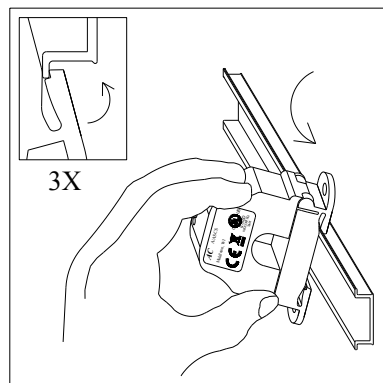

Figure 1: Sensor Placed on Rail
The A/ASCS Series Current Switches should be used on **Insulated Conductors Only!** The current switch may be mounted in any position using the (2) #8 x 3/4" Tek screws and the mounting holes in the base or snapped directly on to the 35mm DIN rail (See Figures 1 & 2 below). Leave a minimum distance of 1" (3 cm) between the current switch and any other magnetic devices such as contactors and transformers.